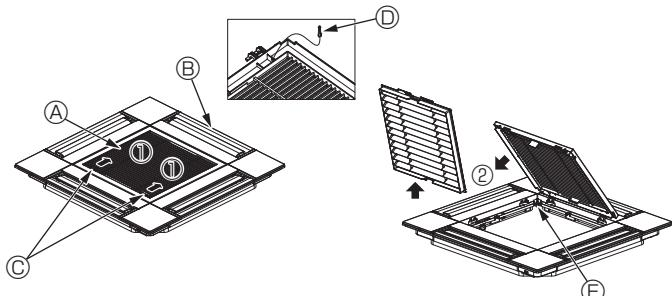

Fig. 5-3
5.2.1. Removing the intake grille (Fig. 5-3)
- Slide the levers in the direction indicated by the arrow ① to open the intake grille.
- With the intake grille in the “open” position, remove the hinge of the intake grille from the grille as indicated by the arrow ②.